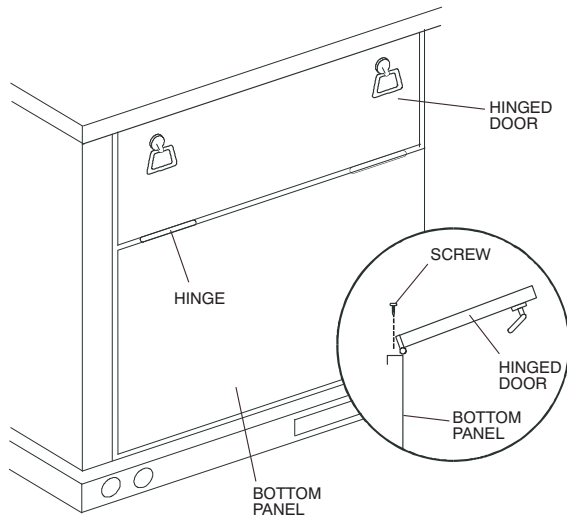

Fig. 1 - Rooftop Unit with Hinged Door
2. Remove the screws that hold the door on to the bottom panel. Save the screws and hinges. (See Fig. 1.)